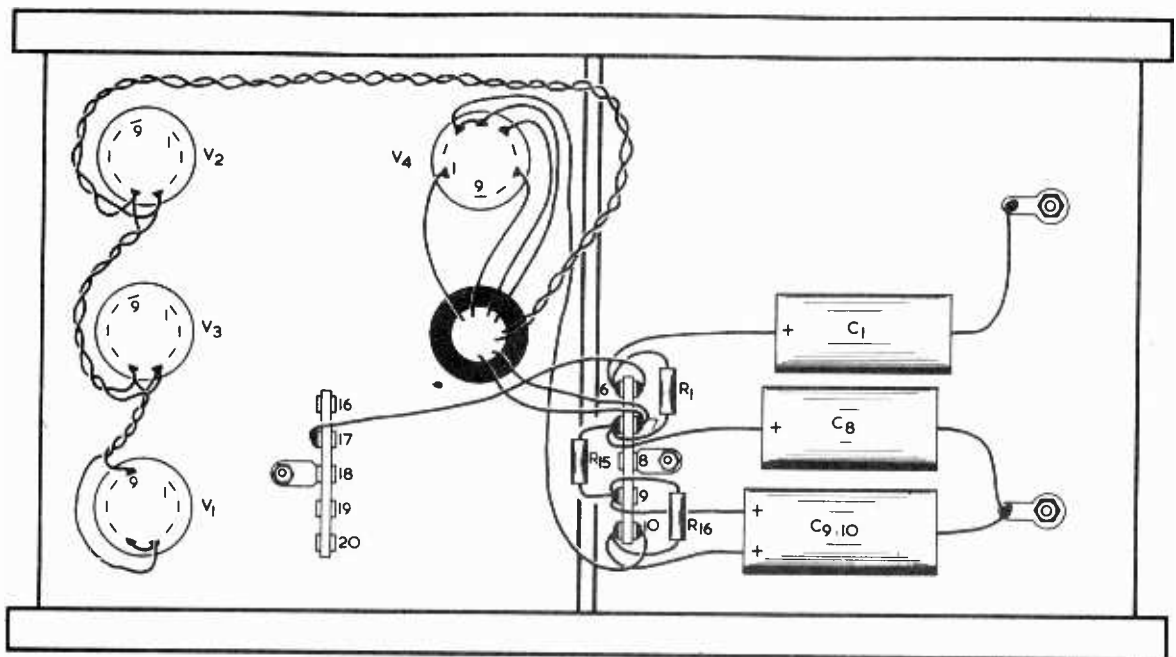

Fig. 8. Heater and power supply wiring
Connect a wire 2 ft. long to the 'O' heater winding tag at the transformer bottom left. Solder at the 'O' tag. Connect a second wire 2 ft. long to the adjacent '6.3' heater winding tag. Solder at the '6.3' tag. Run the two wires along the rear of the mains transformer and through the 3/4 in. grommet. On the underside of the chassis the two wires are twisted together, (they need not be twisted above the chassis) and, following the route shown in Fig. 8, pass to V2 valveholder.
12. The connections to T2 secondary are now completed and we proceed next with fitting the power supply components. These are also shown in Fig. 8. Take up the dual electrolytic capacitor C9, C10 (32+32 μ F) and examine its positive lead-outs. If one of these is coded red connect this lead-out to tag 10 (upper) and connect the other positive lead-out to tag 9 (upper). If no colour coding is provided on the capacitor either of the positive lead-outs may connect to tag 10 with the other lead-out connecting to tag 9. Connect R16 (470 Ω 5 watts) between tag 10 (upper) and tag 9 (upper). Solder at tag 10 (upper). Connect the negative lead-out of C9, C10 to the adjacent chassis tag.
14. Connect the positive lead-out of C8 (50 μ F) to tag 7 (upper). Connect the negative lead-out of C8 to the adjacent chassis tag, as shown in Fig. 8. Solder at the chassis tag. Connect R15 (270 Ω 2 watts) between tag 9 (upper) and tag 7 (upper). Solder at tag 9 (upper).
15. Connect together tag 6 (lower) and tag 17 (lower). Solder at tag 6 (lower). Connect R1 (27k Ω 5%) between tag 7 (upper) and tag 6 (upper). Connect the positive lead-out of C1 (50 μ F) to tag 6 (upper) and its negative lead-out to the adjacent chassis tag, as illustrated in Fig. 8. Solder at tag 6 (upper) and the chassis tag.
16. The wiring in Fig. 8 is now complete and we proceed next to the signal wiring shown in Fig. 9. Connect pin 9 of V2 to pin 3 of V2. Connect pin 9